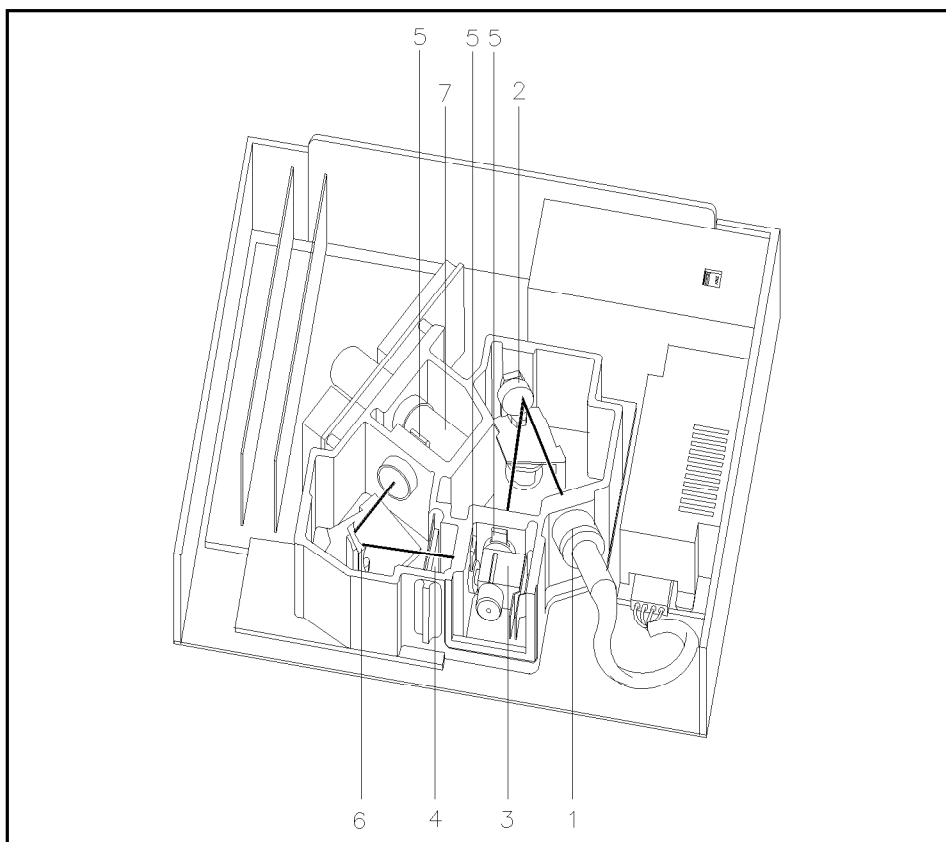

Figure 5-4. Optical Unit
All the elements of the optical system, shown in Figure 5-4, including xenon lamp (1), excitation grating (2), flow cell (3), cut-off filter (4), slits (5), emission grating (6) and photomultiplier tube (7) are housed in the metal casting inside the detector compartment. The HP 1046A has grating/grating optics, enabling the selection of both excitation and emission wavelengths. The flow cell and cut-off filter can be accessed from the front of the HP 1046A by opening the keyboard outwards.